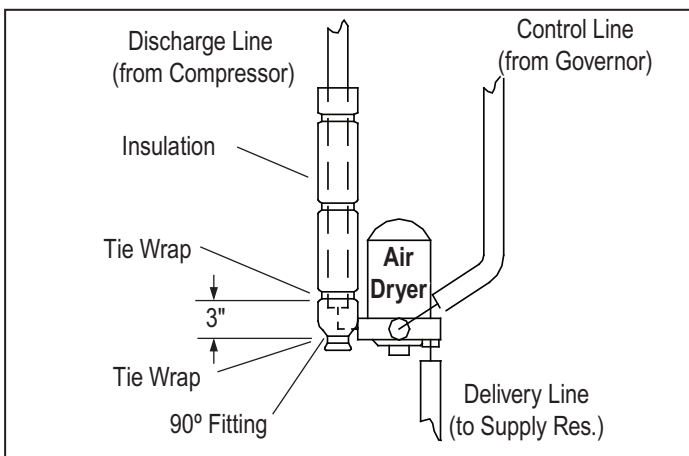

Figure 6 Installing Discharge Line Insulation - (90° Fitting)
**Note:** If the original supply port fitting in the air dryer was 90° and could not be changed, install the pipe insulation as shown in Figure 6. Extend the insulation approximately three (3) inches past the 90° fitting, then tie wrap immediately before and after the fitting as shown
in Figure 6.